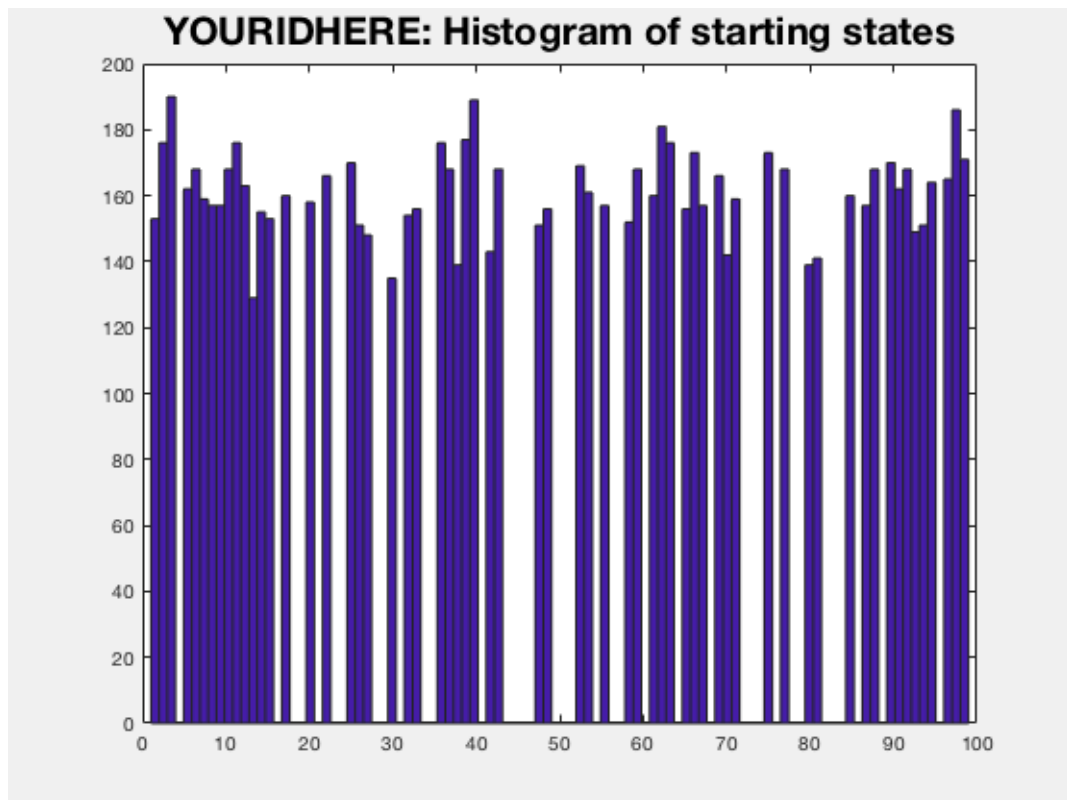

Figure 7. Histogram of 1000 randomly generated starting states, plotted with 100 bins corresponding to one of the maze's 100 states.
- Generate 1000 starting states and plot a histogram using the Matlab histogram function to check your function is working. You should end up with a histogram like the one shown in Fig 7.